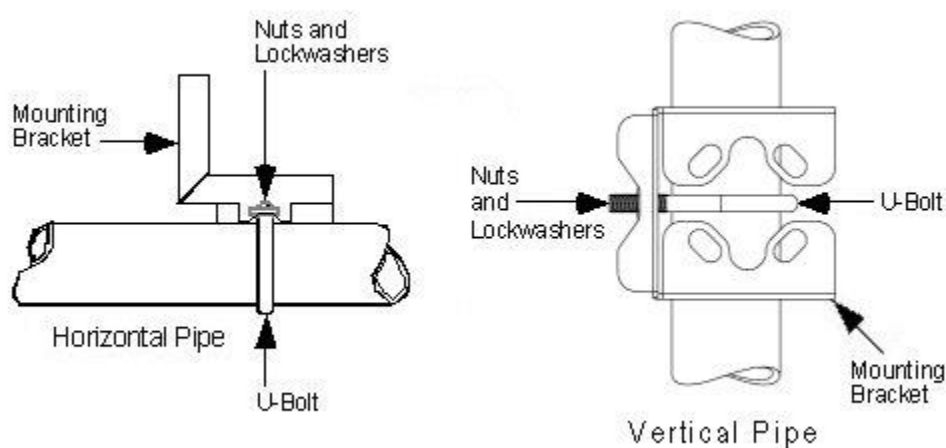

Figure 46 – ST 700 Basic Transmitter - Angle Mounting Bracket Secured to a Horizontal or Vertical Pipe
- Refer to Figure 46 for position of the bracket on a 2-inch (50.8mm) nominal, 2.38-inch (60.4mm) actual, horizontal or vertical pipe, and install a “U” bolt around the pipe and through the holes in the bracket. Secure the bracket with the nuts and lock washers provided.